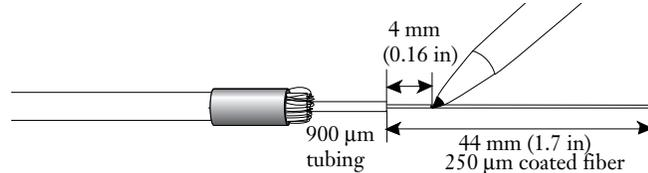

Figure 5-33
**5.6-11** Feed the 250  $\mu\text{m}$  coated fiber through the fan-out tubing until 44 mm (1.7 in) of fiber protrudes from the end of the tubing (see Figure 5-33).
**5.6-12** Measure and mark the 250  $\mu\text{m}$ -coated fiber 4 mm from the end of the 900  $\mu\text{m}$  fan-out tube (Figure 5-33).